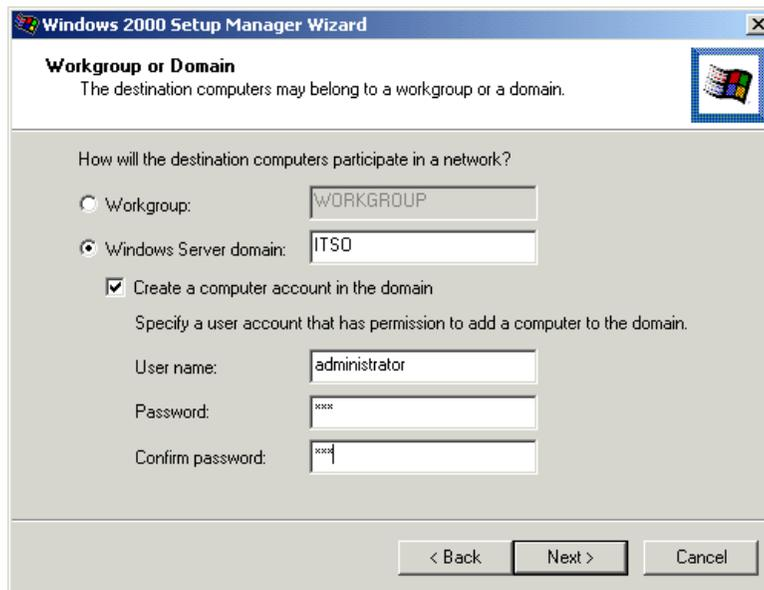

Figure 53. Setup Manager — creating a computer account on the domain
17. Choose **Windows Server domain** and type your domain name. We used our ITSO domain as shown in Figure 53.